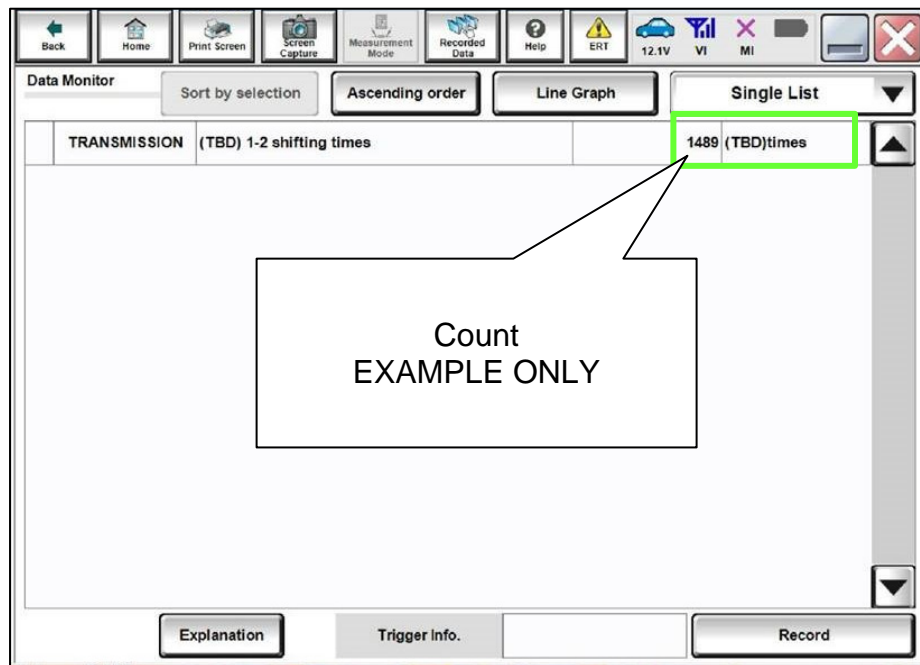

Figure 6
11. Verify the “count” (Figure 6).